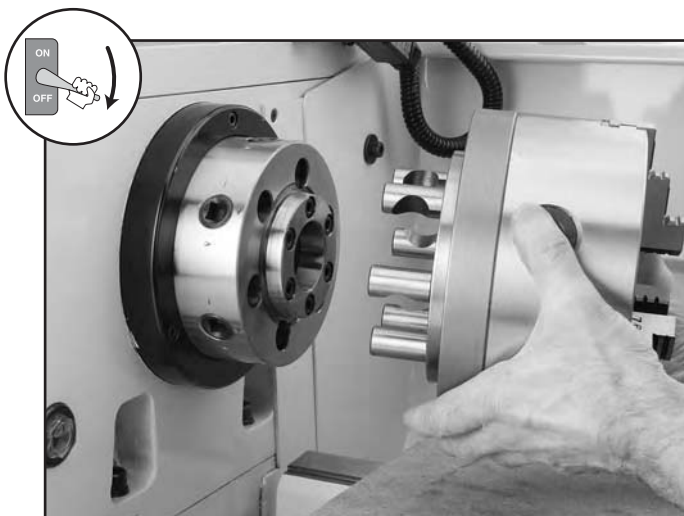

Figure 34. Removing a chuck from the spindle nose.
8. With a rocking motion, carefully remove the chuck or faceplate from the spindle nose, as shown in the example of **Figure 34**.